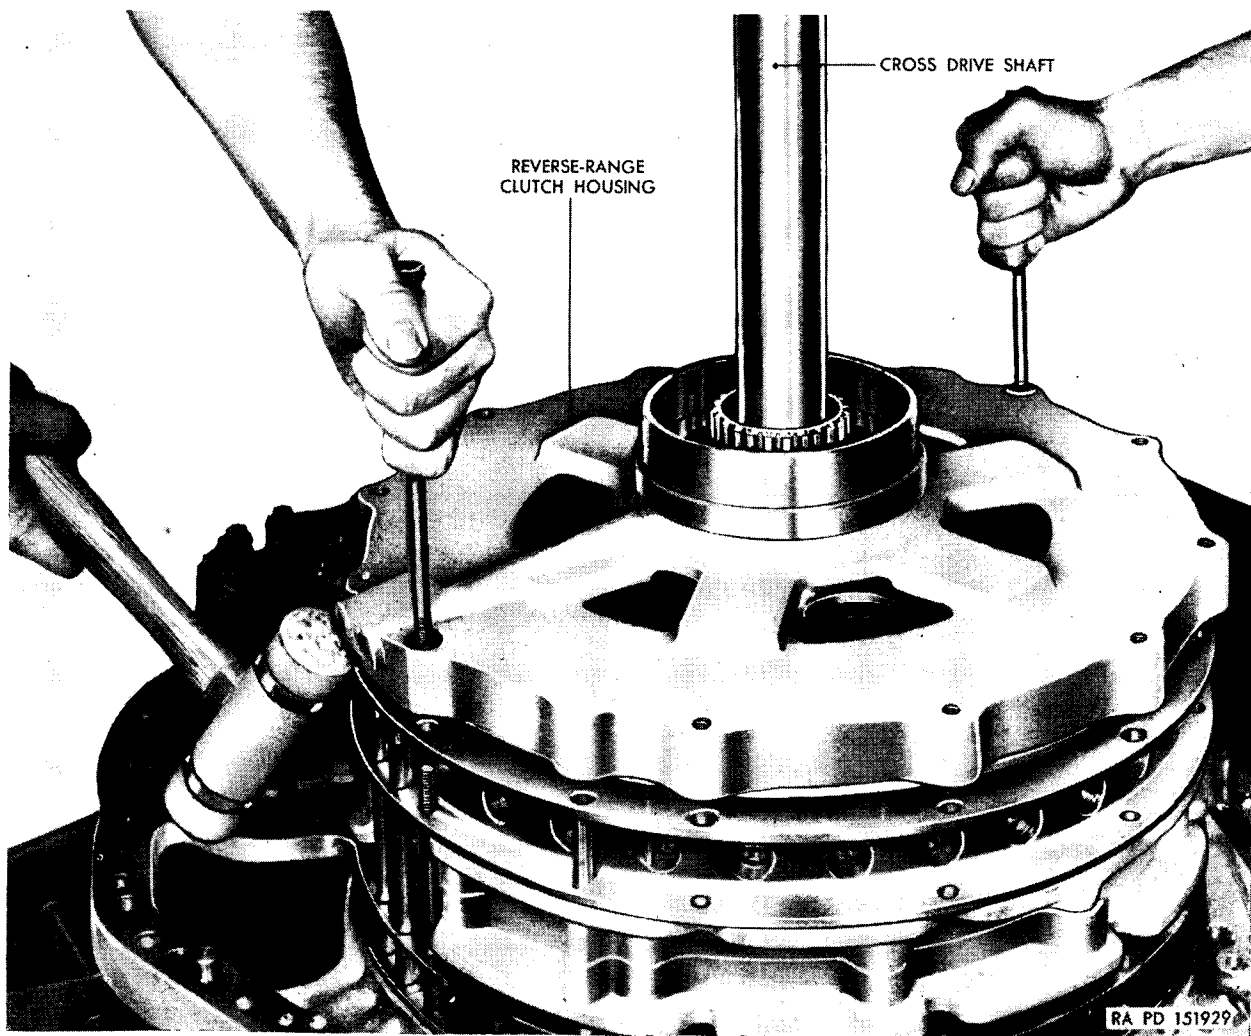
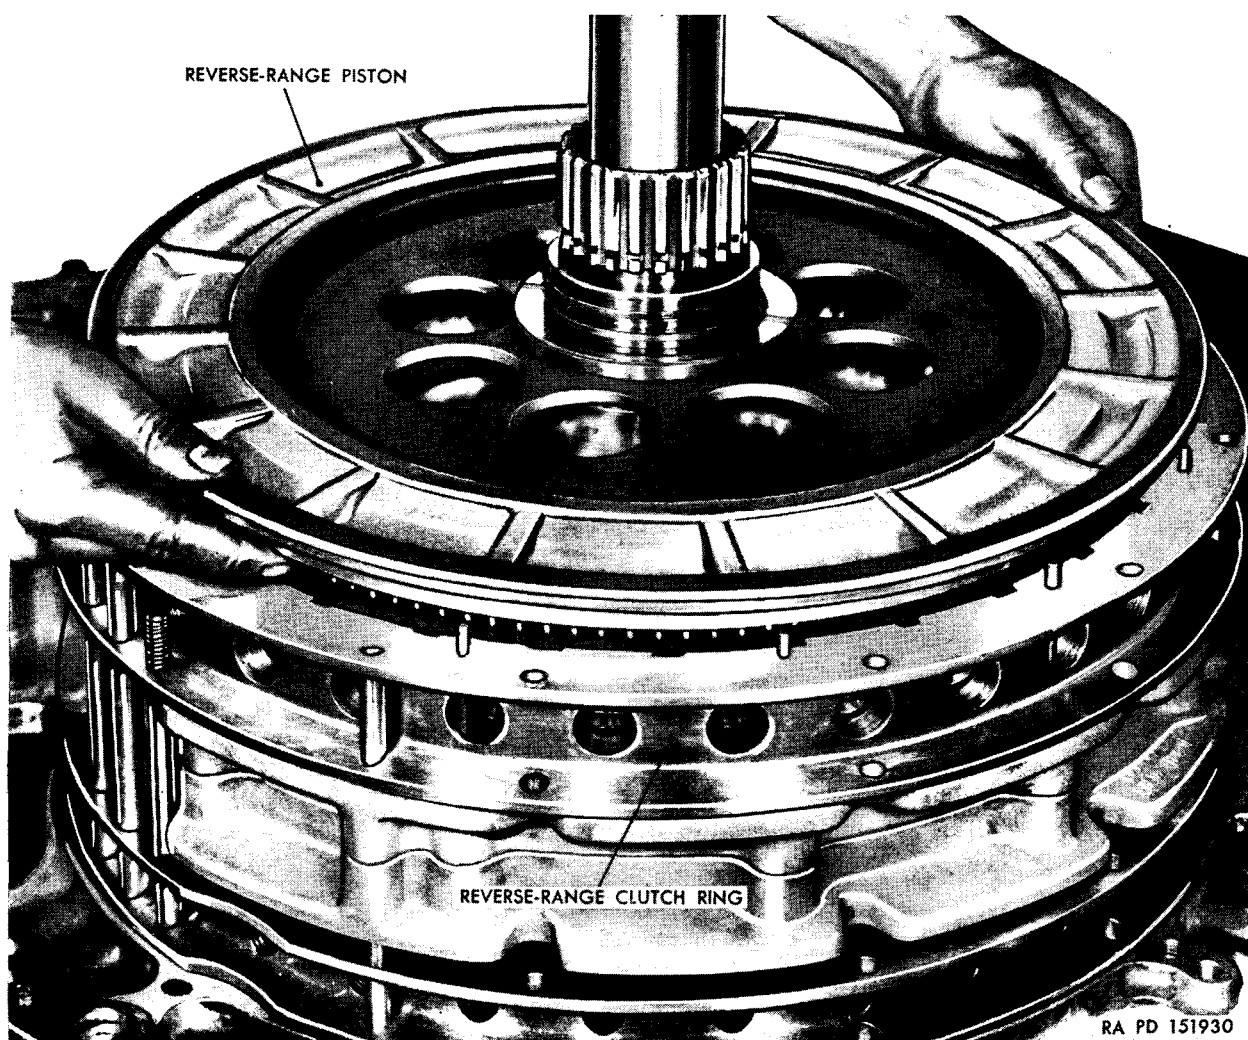

Figure 190. Freeing reverse-range-clutch housing.
Figure 191. Removing reverse-range piston.
- (2) Use a soft hammer to free the reverse-range-clutch housing (fig. 190) from the oil transfer tubes. Lift off the reverse-range-clutch housing. Remove the reverse-range-clutch piston (fig. 191).